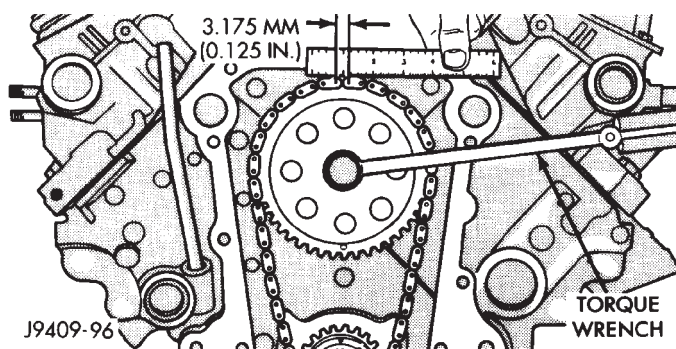

Fig. 5 Measuring Timing Chain Wear and Stretch
(1) Place a scale next to the timing chain so that any movement of the chain may be measured.
(2) Place a torque wrench and socket over camshaft sprocket attaching bolt. Apply torque in the direction of crankshaft rotation to take up slack; 41 N·m (30 ft. lbs.) torque with cylinder head installed or 20 N·m (15 ft. lbs.) torque with cylinder head removed. With a torque applied to the camshaft sprocket bolt, crankshaft should not be permitted to move. It may be necessary to block the crankshaft to prevent rotation.
(3) Hold a scale with dimensional reading even with the edge of a chain link. With cylinder heads installed, apply 14 N·m (30 ft. lbs.) torque in the reverse direction. With the cylinder heads removed, apply 20 N·m (15 ft. lbs.) torque in the reverse direction. Note the amount of chain movement (Fig. 5).
(4) Install a new timing chain, if its movement exceeds 3.175 mm (1/8 inch).